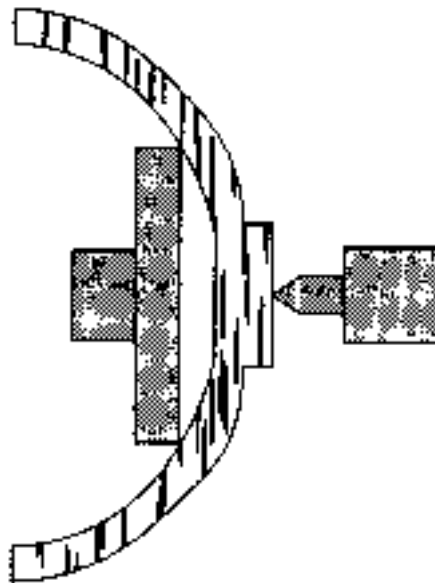

Figure 5. Mount project between your Tailstock mounted Center and a Faceplate.
Step 3: Mount your project between your Tailstock-mounted Center and a Faceplate as shown in Fig. 5 and finish turning the outside. True-up your *Foot* before removing the stock.